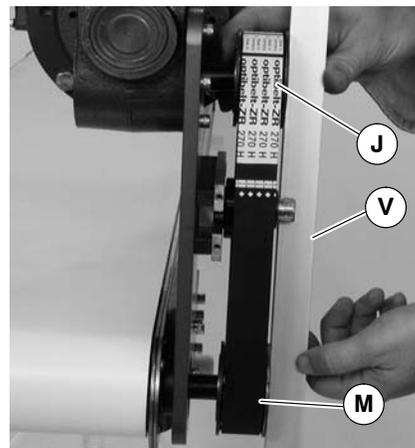
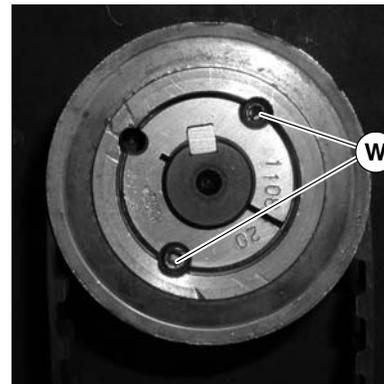

Figure 8
Figure 9
7. Using a straight edge (V of Figure 8), align driven pulley (M) with drive pulley (J). Tighten driven pulley taper-lock screws (W of Figure 9).